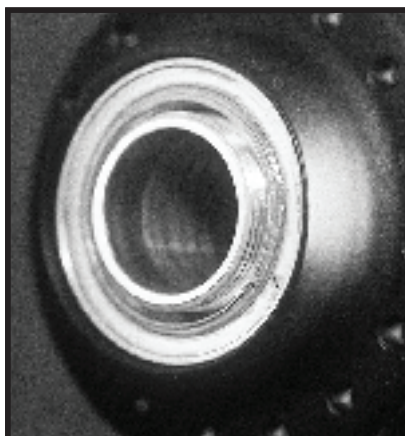

Figure 15 - main axle
2. Insert main axle through drive shell and completely into hub. Axle should protrude slightly through the non drive side bearing. (See figure 15.)